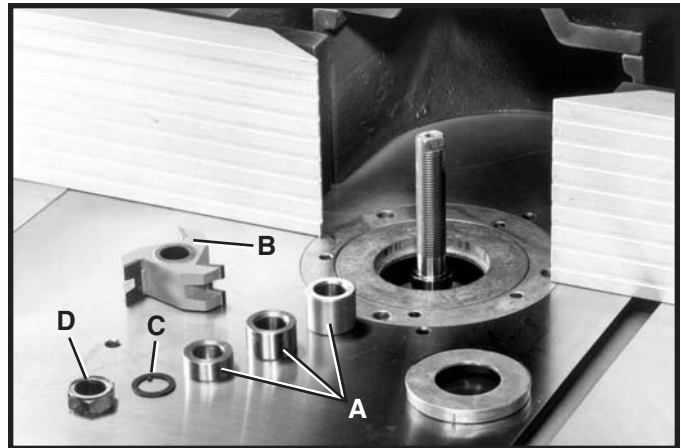

Fig. 35
1. There are three different sized collars (A) Fig. 35, supplied with the shaper. These collars will allow the cutter and/or the 4-1/2 diameter spindle guard to be positioned at various locations on the spindle.
3. After determining if any collars are needed, assemble cutter (B) Fig. 35, keyed washer (C), and spindle nut (D) as shown in Fig. 36, then place one wrench on flats (E) on top of spindle and one wrench on spindle nut (D) and tighten as shown in Fig. 37.